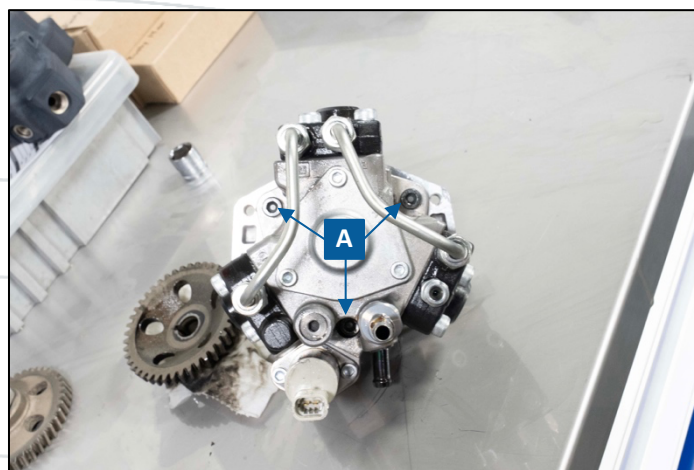

Figure 28: HP4 Flange Mounting Bolts
- c. Remove flange mounting hardware, 6mm Allen head bolt x3 (labeled A in Figure 28).